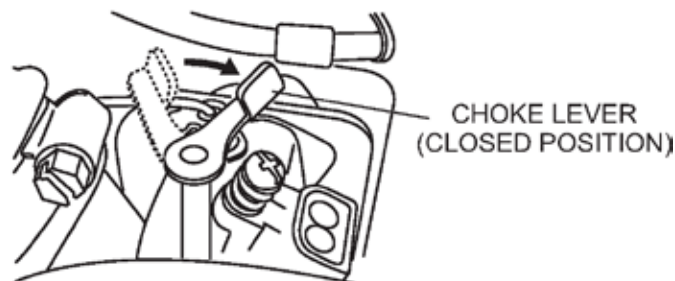

Figure 8. Choke Lever
5. If engine fails to start, move the choke lever (Figure 8) to the half open position to avoid flooding.